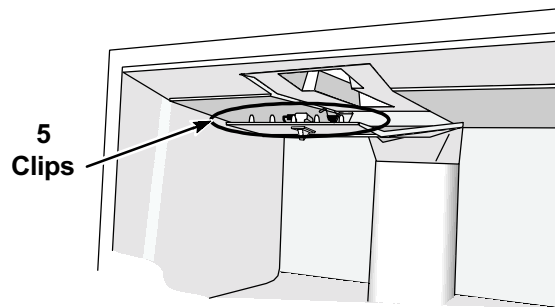

Fig. 14
2. Remove the automatic ice maker (if present) or slide the ice cube tray shelf forward to release it from the (3) stand-off screws securing it to the freezer compartment ceiling.
4. Remove the two (2) screws securing the freezer ceiling air duct to the top of the freezer compartment.
5. Pull the air duct down from the freezer compartment ceiling. Take care not to break the five (5) clips securing the front of the air duct to the ceiling. (Fig. 14)